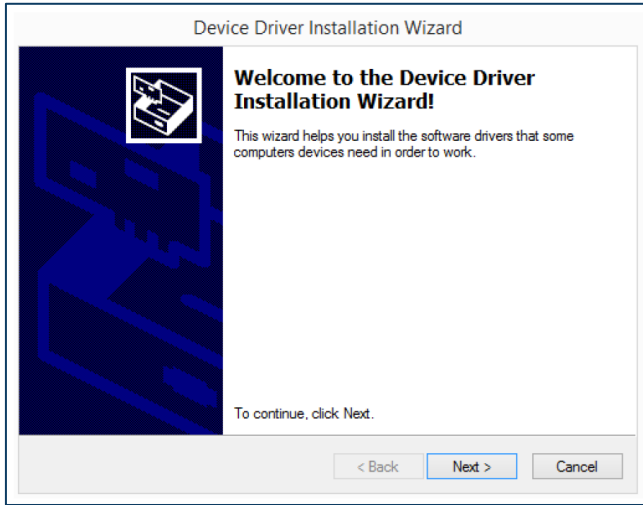

Fig. 5 – Device driver installation wizard
9. Follow the installation wizard shown in *Figures 5 and 6*. Click **Next** for each window.